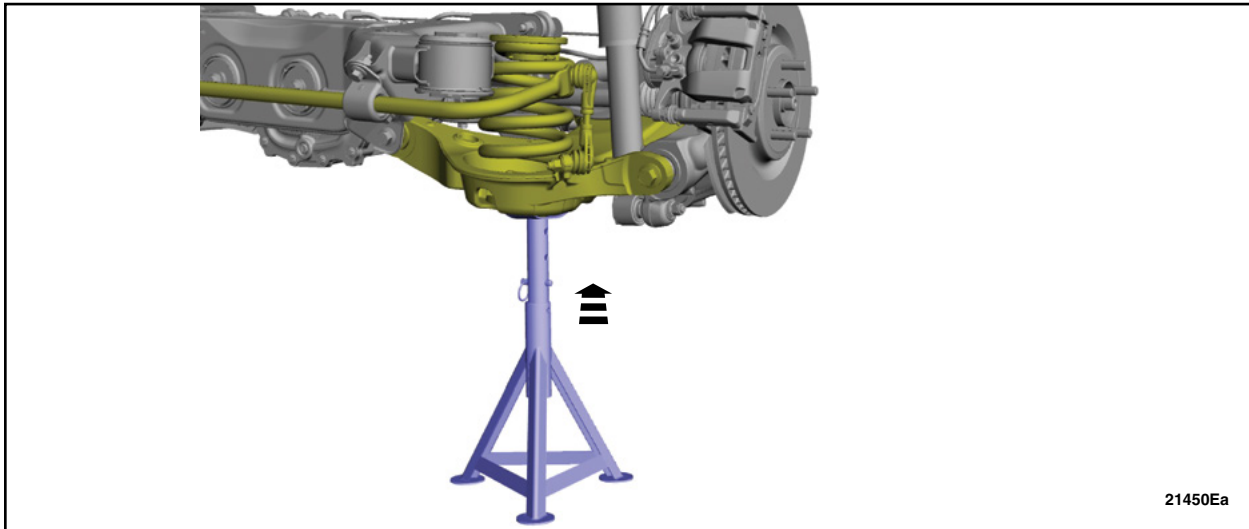

FIGURE 1
4. Use a suitable jack to raise the suspension until the distance between the center of the hub and the lip of the fender is equal to the measurement taken during removal (curb height). See Figure 1.